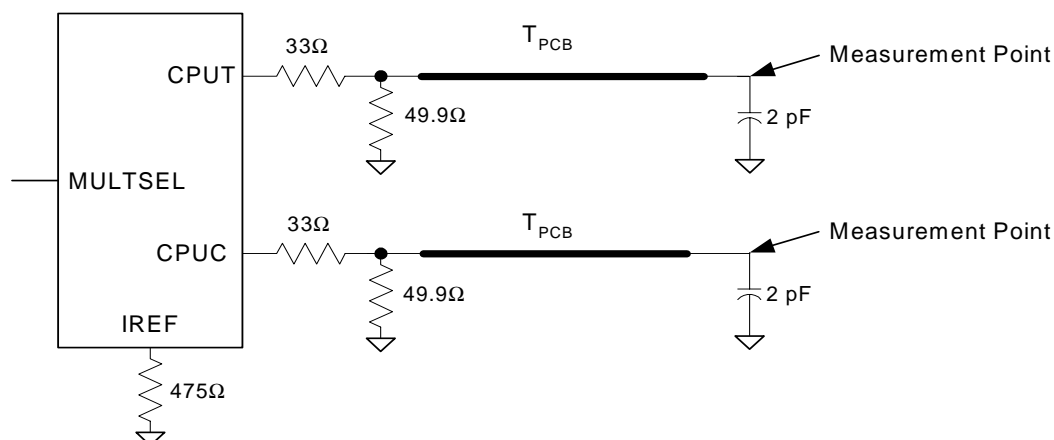

Figure 8. 0.7V Configuration
18. For CPU load. See Figure 8.